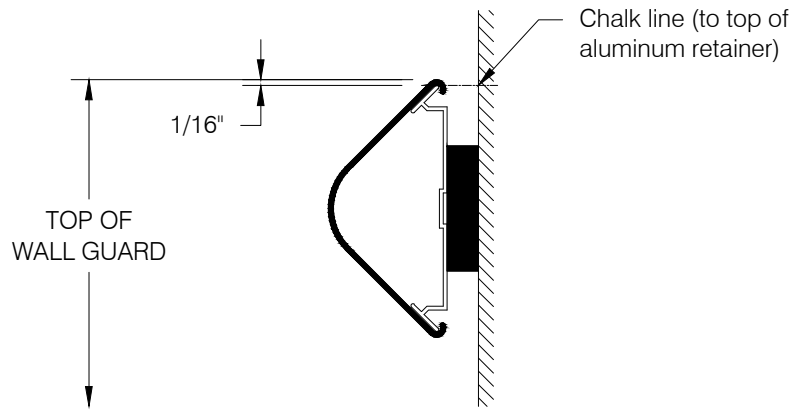

fig 1
- Step 1:** Determine top of wall guard and snap a chalk line 1/16" below to locate top of aluminum retainer, see **fig 1**.